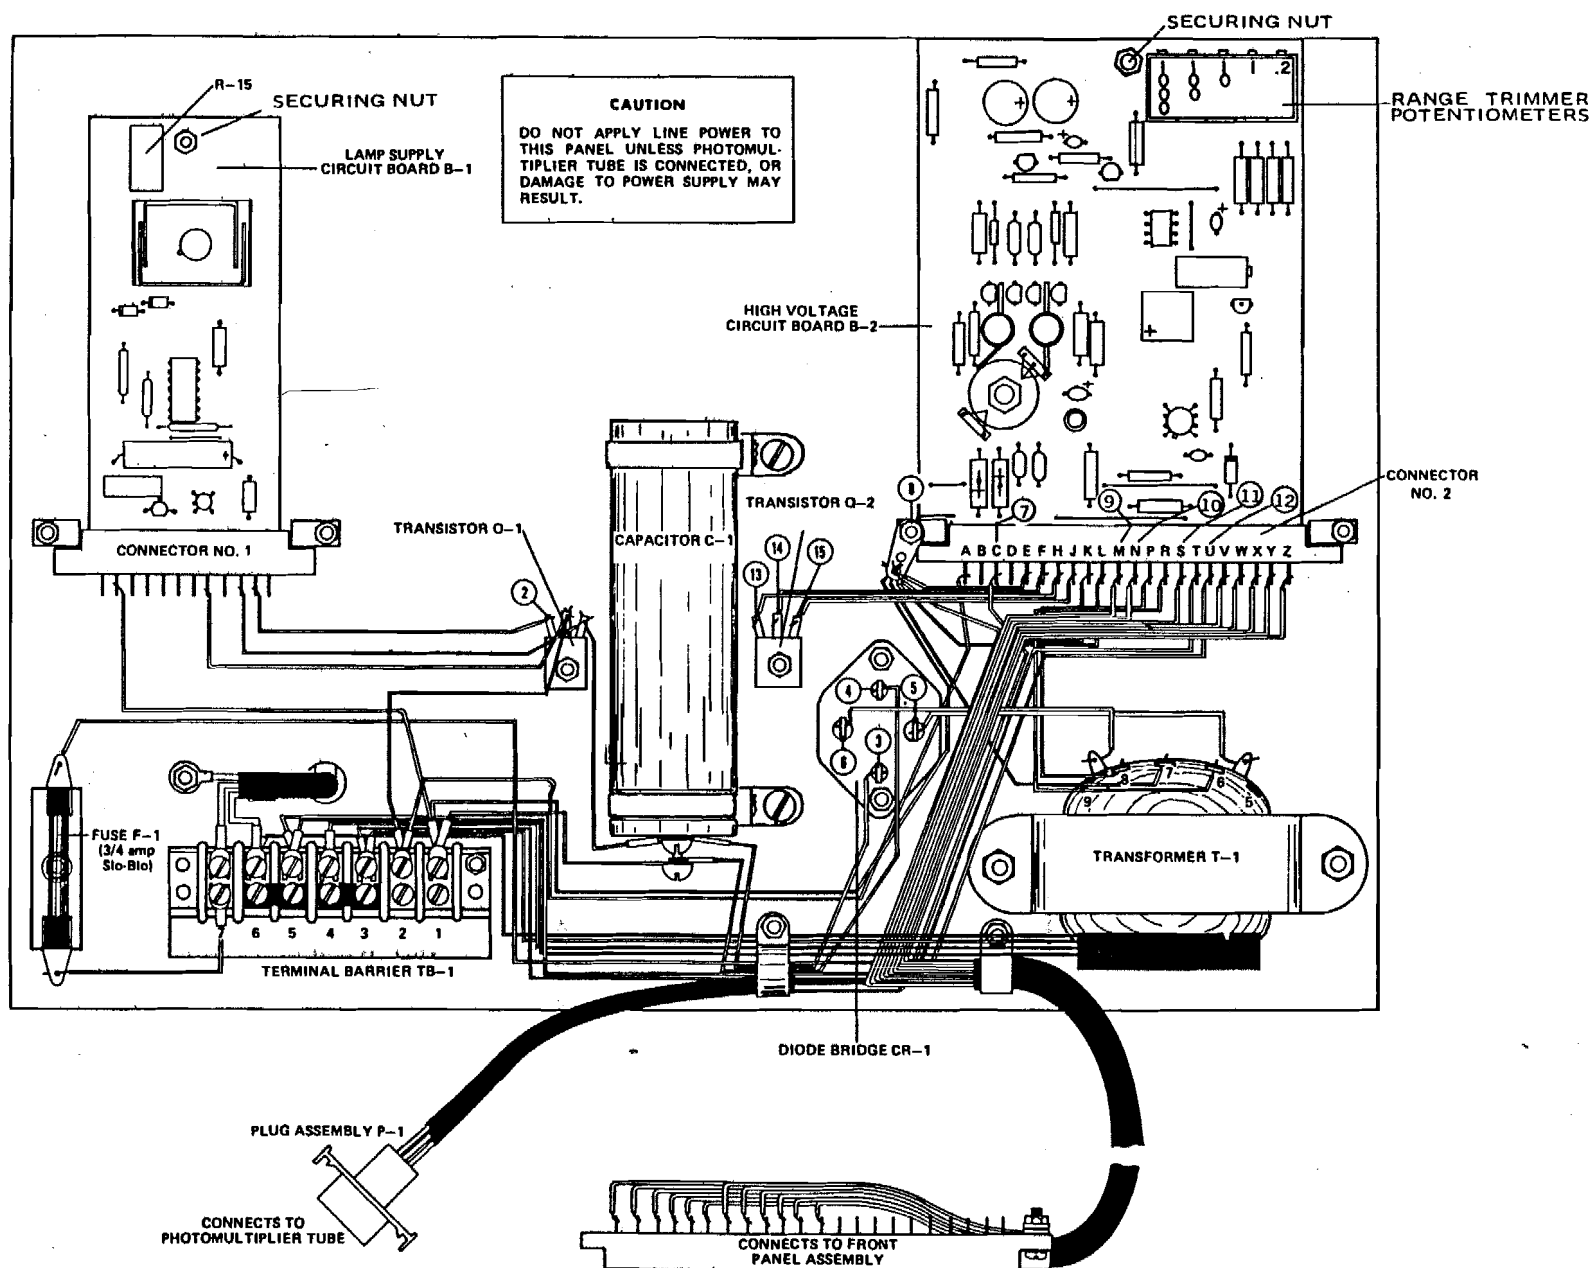

FIGURE 4
1. The instrument is normally wired for 115 V, 50/60 Hz operation. If desired, it can be ordered for 220 V, 50/60 Hz. The operating voltage can be changed manually in the field by changing the jumper arrangement on TB-1. See Figure 4. Refer to the note on the instrument schematic for the appropriate jumpering. After it has been determined that the instrument is connected for the proper voltage, it should be plugged into a grounded outlet.
6. Locate and remove the pair of lamp assembly lead wires attached to terminals 1 and 2 on TB-1. *See Figure 4.*
The calibration of each sensing range is set by five trimmer potentiometers located on circuit board assembly B-2 (at the top of the back panel assembly). See Figures 4 and 6. These are factory adjusted for accurate readings on all ranges and should not normally require readjustment. In case the photomultiplier tube or high voltage circuit board is replaced, range adjustment may be required. From time to time, it is advisable to check
5. If the correct voltage is not read, adjust potentiometer R-15 on circuit board B-1 until voltage is correct. *See Figure 4.*